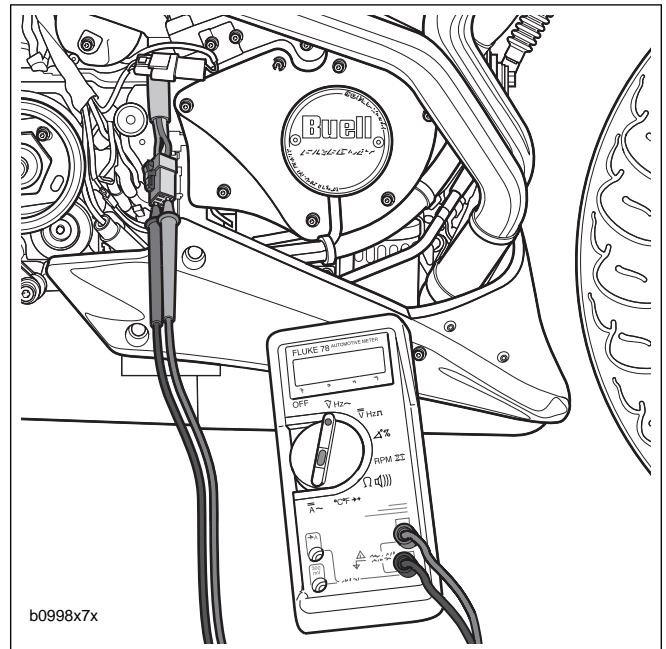

Figure 7-33. Check Stator AC Voltage Output
1. See Figure 7-33. Test AC output.